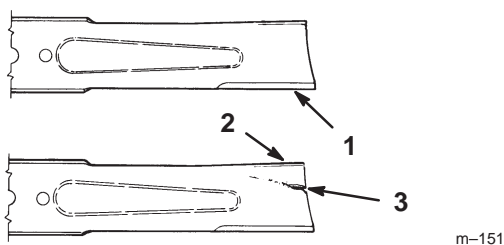

Figure 26
1. Inspect the cutting edges (Fig. 26). If the edges are not sharp or have nicks, remove and sharpen the blades; refer to Sharpening the Blades, page 26.
2. Inspect the blades, especially the curved area (Fig. 26). If you notice any damage, wear, or a slot forming in this area (item 3 in Fig. 26), immediately install a new blade.